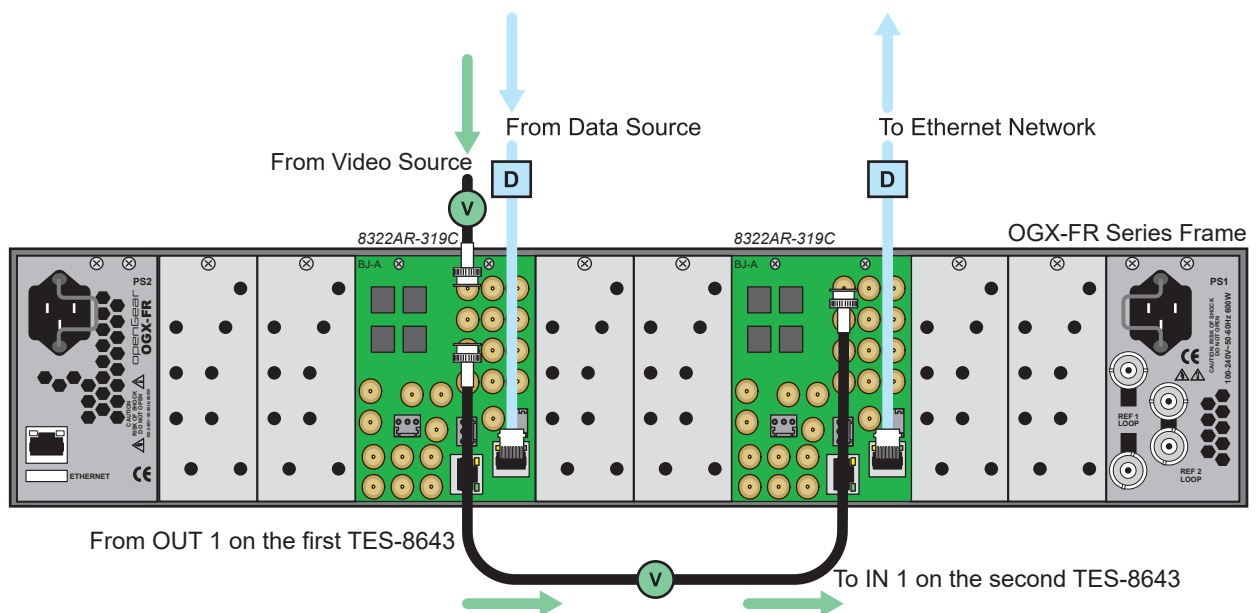

Figure 3 Cabling Overview
3. Connect the **OUT 1** BNC on the first TES-8943 to the **IN 1** BNC on the second TES-8943. See **Figure 3**.
4. Connect the **IN 1** BNC on the first TES-8943 to the video source. See **Figure 3**.
5. Connect the Data Source and the first TES-8943 to the Ethernet. See **Figure 3**.
6. Connect the receive computer and the second TES-8943 to the Ethernet. See **Figure 3**.